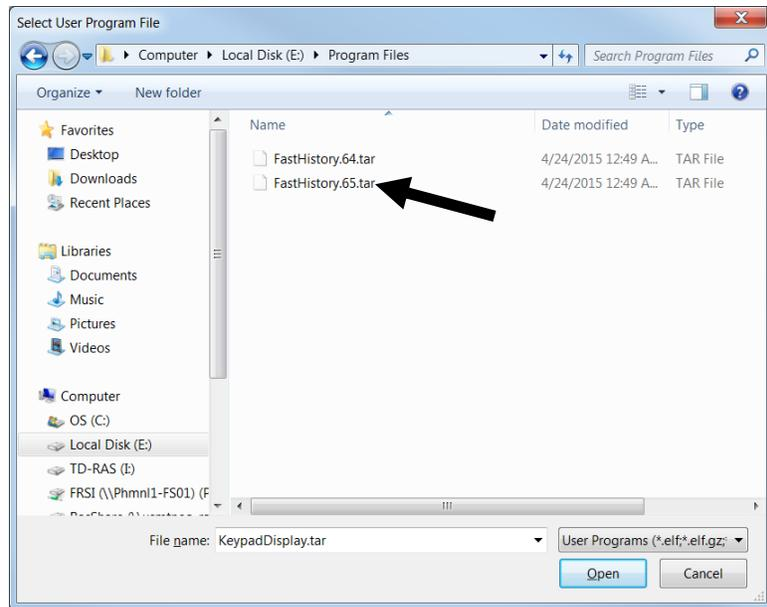

Figure 5. Select User Program File
5. Click **Browse** in the Download User Program File frame. The Select User Program File screen displays (see *Figure 5*).
6. Select the path and user program file to download from the CD-ROM. (Program files are typically located in the Program Files folder on the CD-ROM.) As *Figure 5* shows, the screen lists all valid user program files with the .TAR extension: